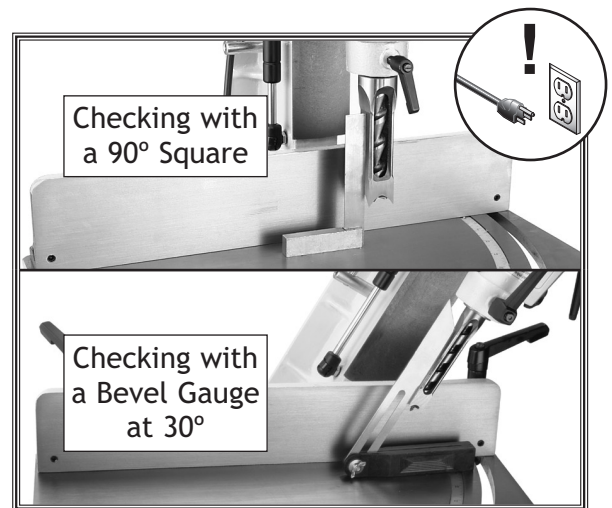

Figure 23. Checking head tilt angles.
3. Use the 90° square and bevel gauge at 30° (**Figure 23**) to check the chisel angle to the table when the head is in each of the three positions (30° L, 0°, 30°R).